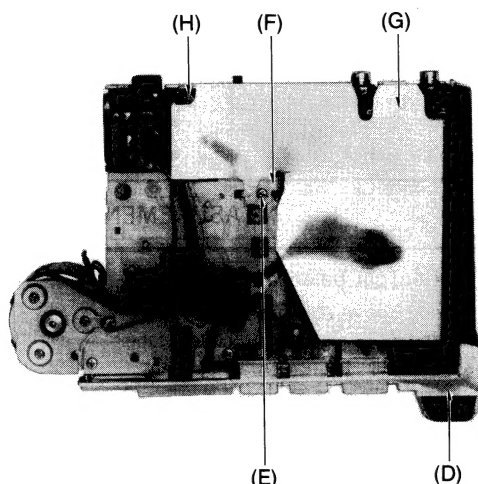

Fig. 3
| Head azimuth adjustment Condition: * Playback mode Equipment: * VTVM * Oscilloscope * Test tape (azimuth) ... QZZCFM | L-CH/R-CH output balance adjustment <ol style="list-style-type: none"> 1. Make connections as shown in fig. 1 and 2. 2. Playback the 8kHz signal from the test tape (QZZCFM). Adjust screw (A) in fig. 3 for maximum output L-CH and R-CH levels. When the output levels of L-CH and R-CH are not at maximum at the same time, readjust as follows. 3. Turn the screw shown in fig. 3 to find angles A and C (points where peak output levels for left and right channels are obtained). Then, locate the angle B between angles A and C, i.e., a point where L-CH and R-CH output levels come together at maximum. (Refer to figs. 3 and 4.)   <p>Fig. 1</p>  <p>Fig. 2</p> L-CH/R-CH phase adjustment <ol style="list-style-type: none"> 4. Make connections as shown in fig. 2 and 5. 5. Playback the 8kHz signal from the test tape (QZZCFM). Adjust screw (A) shown in fig. 3 so that pointers of the two VTVMs swing to maximum and a waveform as illustrated in fig. 6 is obtained on the oscilloscope.  <p>Fig. 4</p>  <p>Fig. 5</p>  <p>Fig. 3</p>  <p>Fig. 6</p> |